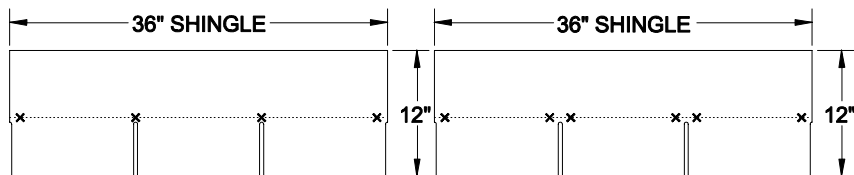

Figure 26. Shingle fastener locations for Wind Zone I (left) and Wind Zones II and III (right).
- 2. Install shingles.** If shingles have been left off at the ridge line for site installation, install them now using 12 ga x 1-1/4" long, 3/8" diameter head roof nails or 16 ga 1" crown x 1" length staples. For Wind Zone I, fasten at 5/8 inch above each tab cutout slot and one at each end of the shingle one inch in from the edge (four fasteners for a three-tab shingle) (Figure 26). For Wind Zones II and III, use two fasteners 5/8 inch above and on either side of the tab slots and one at each end of the shingle one inch in from the edge (six fasteners for a three-tab shingle). Do not fasten through the shingle tar line.